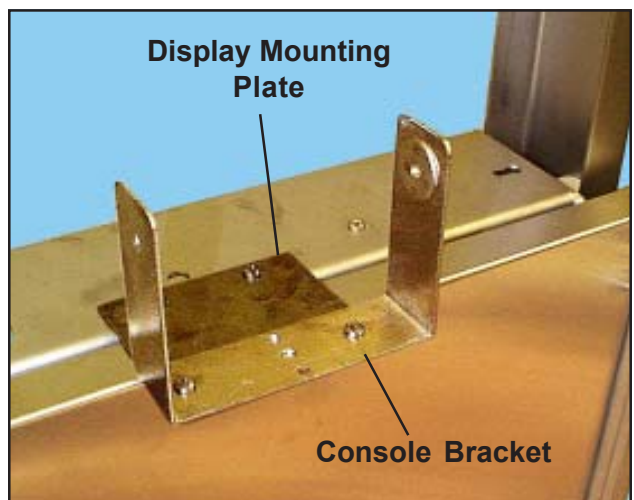

Figure 15. Mounting the Console Bracket on the Mounting Plate
2. With a Phillips screwdriver and a 3/8-in. wrench, mount the console bracket to the mounting plate with two 10-24 x .5-in. screws and locknuts (Figure 15).